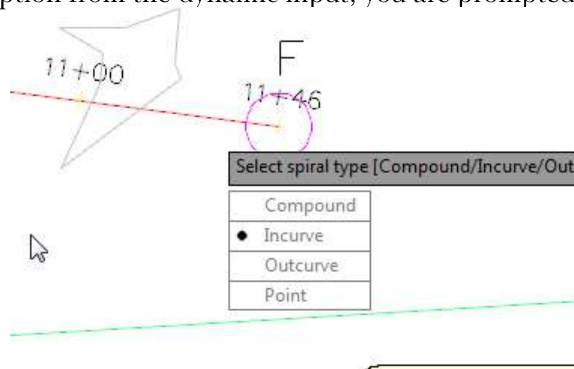

Figure 5-68 Dynamic input prompted for selecting spiral type
2. Select a segment of the alignment lying between station 10+00 and 11+00; you are prompted to specify the spiral type, as shown in Figure 5-68.